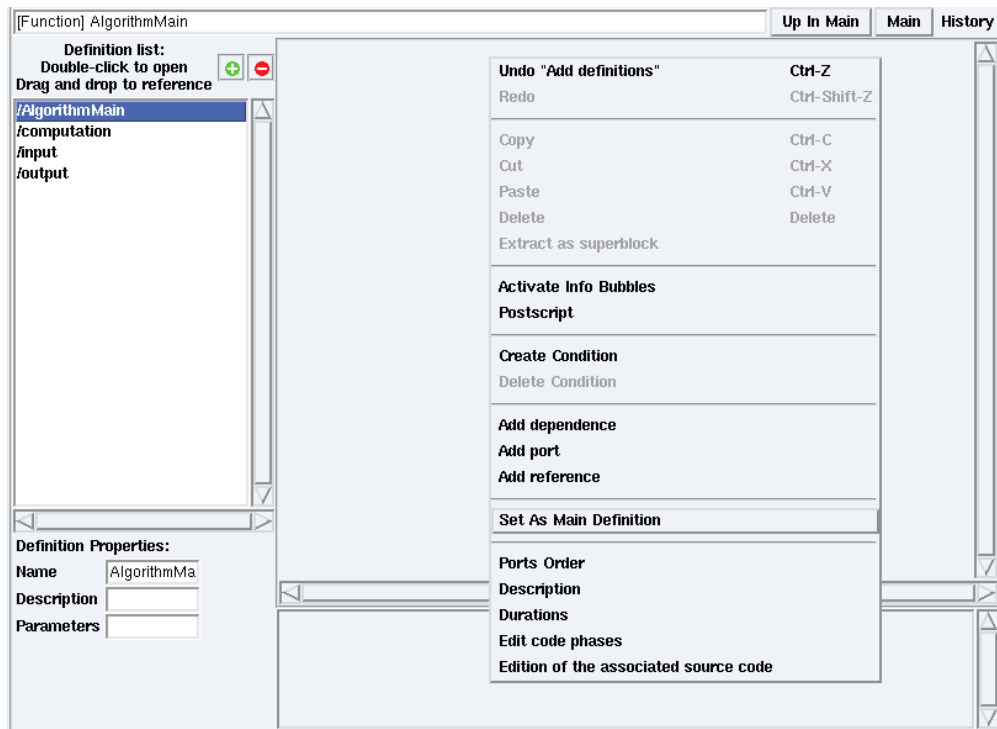

Figure 1.8: Contextual menu → **Set As Main Definition**
- double click on `AlgorithmMain` in the **Definition list**. Then right click on its background and select **Set As Main Definition** (cf. figure 1.8);